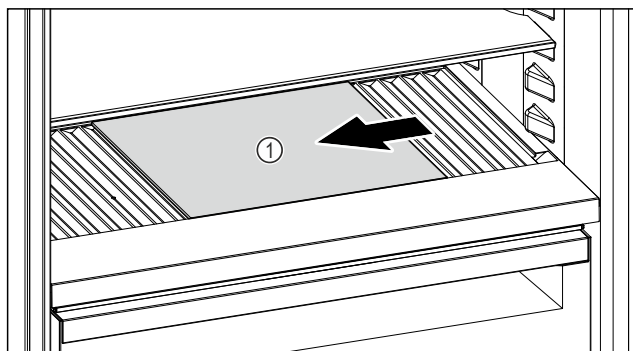

Fig. 204
- Move the glass shelf to Fig. 204 (1) the left, centre or right.